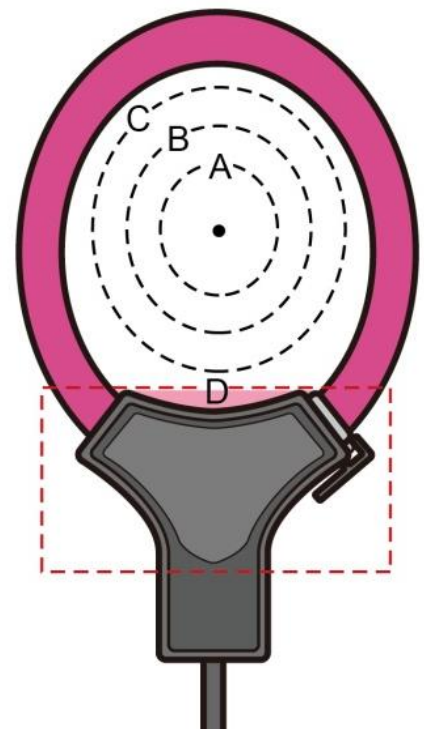

Figure 1.0
1. The ICP DAS Rogowski power meter is calibrated with the conductor positioned at the center (Position A in Figure 1.0), which is the ideal location to ensure measurement accuracy.
2. The Rogowski coil is not a completely closed circular structure, as it has a connection joint. The dashed area at Position D in Figure 1.0 indicates the location of this connection. It is known that when the measured conductor is placed closer to this area, the measurement error increases because magnetic flux variations in that section cannot be properly detected. Please avoid measuring current within the dashed area, as doing so may result in measurement errors exceeding  $-5\%$ . Moreover, external magnetic flux can also affect the connection section, further increasing measurement errors.